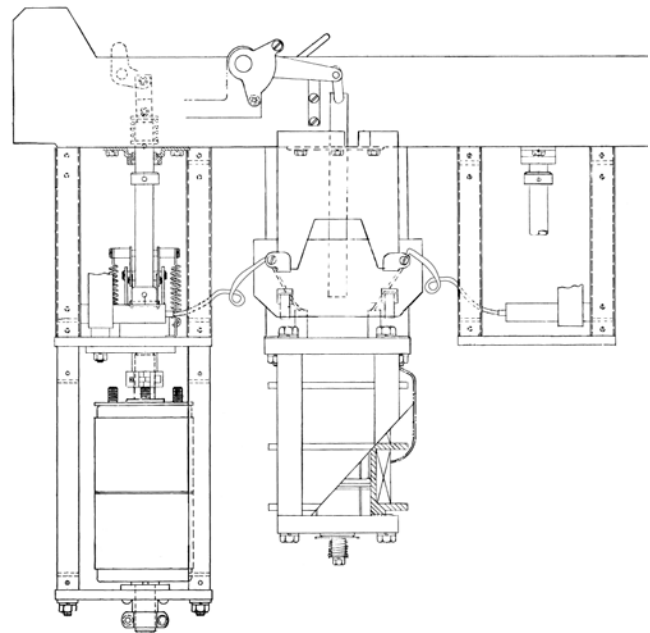

Figure 18. KA1143R double break contactor – applicable to reclosers with potential coils rated above 30 kV
Type VWE, VWVE27, and VWVE38X reclosers with potential coils rated below 30 kV are equipped with a double pole contactor, KA4304R3, which provides a single break in each line (Figure 18).
Note: On the KA430R3 (Figure 18) contactor configuration, reattach the lockwasher and hex nut to the contactor terminal immediately after disconnecting the coil lead to prevent loss of moving contact parts which are attached to the support plate with the same hardware.
9. Refer to Figure 18 or 19 (whichever is applicable) for proper lead connections:
- Type VWE, VWVE27, and VWVE38X reclosers with potential coils rated below 30 kV are equipped with a double pole contactor, KA4304R3, which provides a single break in each line (Figure 18).
On the KA430R3 (Figure 18) contactor configuration, reattach the lockwashers and nut to the contactor terminal immediately after disconnecting the coil lead to prevent loss of parts of the moving contact arm assembly which is attached to the support plate with the same hardware.